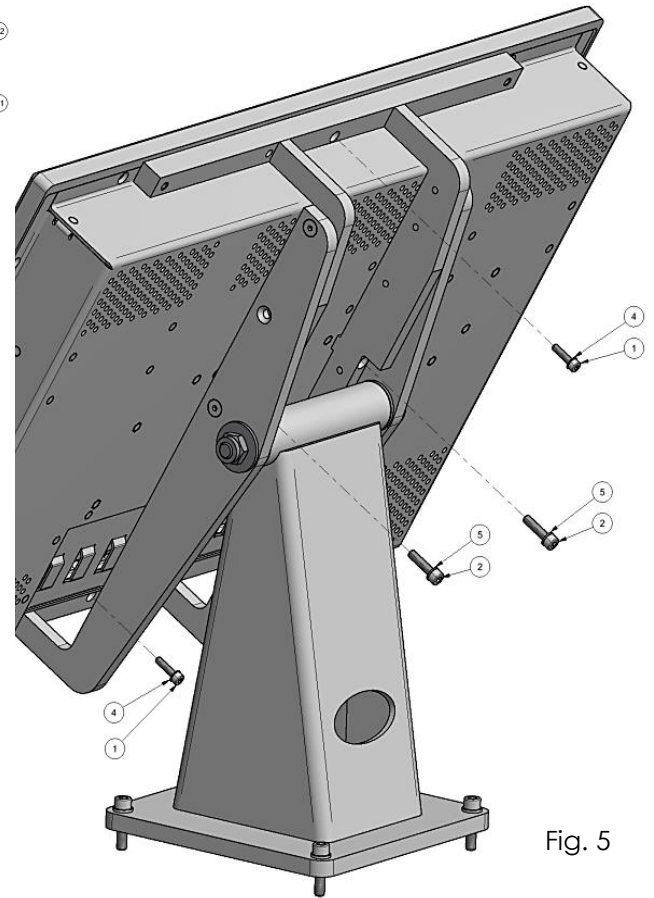

Fig. 5
4. Fasten two screws with washers (bracket kit item 1 and 4) at top and bottom of monitor bracket (fig. 5)
5. Fasten two screws with washers (bracket kit item 2 and 5) at the middle of monitor bracket (fig. 5)